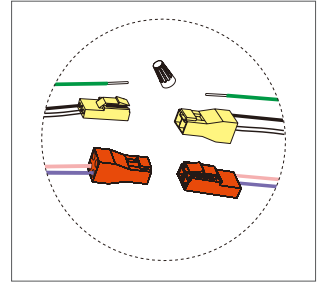

FIGURE 3-3
3) Make wiring connections as shown in Figure 3-3